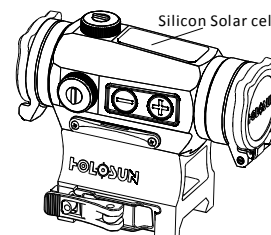

Fig1 PARALOW HS515C Circle Dot Sight
3. First open the protective cap (see Fig1), position slot type screwdriver on the slotted screw, then rotate the screw to right or left for adjustment. Each left or right click is for one adjustment equivalent to 0.5MOA value.